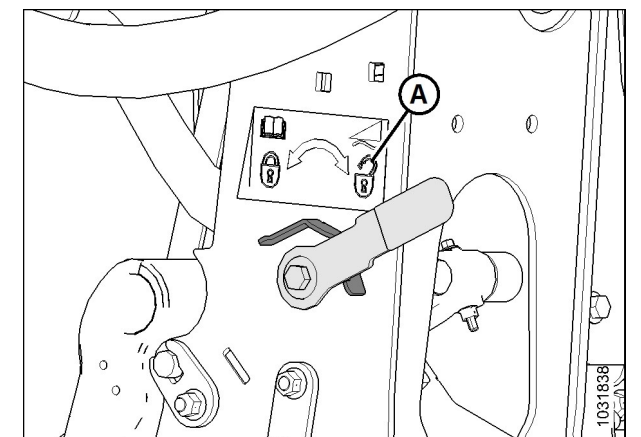

Figure 3: Float Unlocked – Left Side Shown
- On the side that you are adjusting, move spring handle (A) to the lower (UNLOCK) position. Keep the opposite wing locked. You should hear the lock disengage. If not, use multi-tool (B) to rotate the mechanism so that the lock disengages.
- On both sides of the float module, place the header float locks (shown in Figure 3) in the locked position.